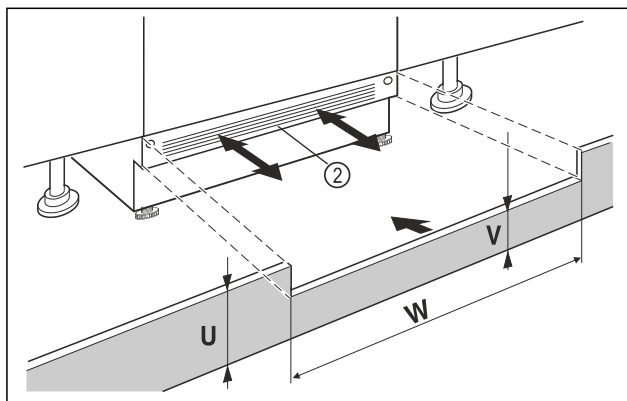

Fig. 91 Example illustration
- ▶ Put on the appliance base cover Fig. 91 (2) but do not fix it yet.
- ▶ If the base cover Fig. 91 (2) is visible, pull it so far forward that the front edge of the ventilation grille and the unit base cover form one level.
- ▶ If the base cover is concealed Fig. 91 (2), push it all the way back.
- ▶ Ensure that the ventilation slots are completely free: If necessary, cut the height of the unit base cover Fig. 91 (U) to size!
- ▶ Adjust the bar height Fig. 91 (V) under the appliance base cover Fig. 91 (2) along the recess width Fig. 91 (W).